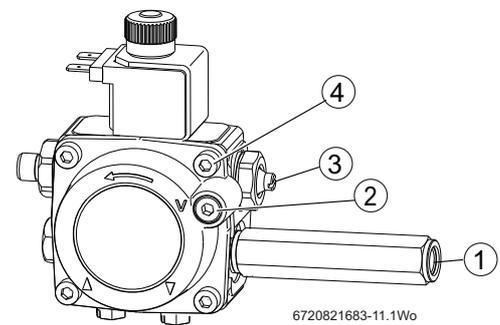

Fig. 60
1. Fit a pressure gauge to port [1] on the oil pump (refer to figure 60).